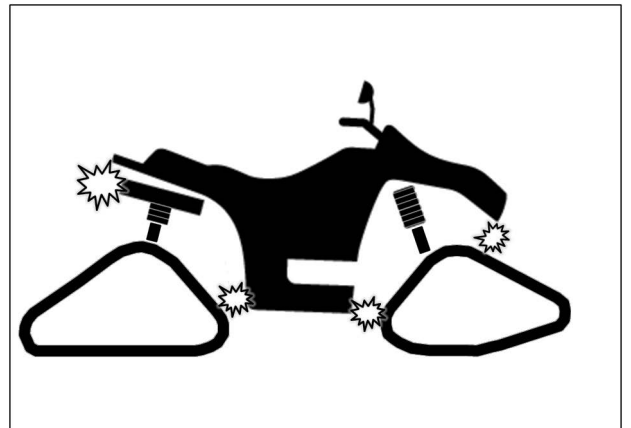

Fig. 33
2. Verify for possible contact between Track System and lower fender corners. See Fig. 33